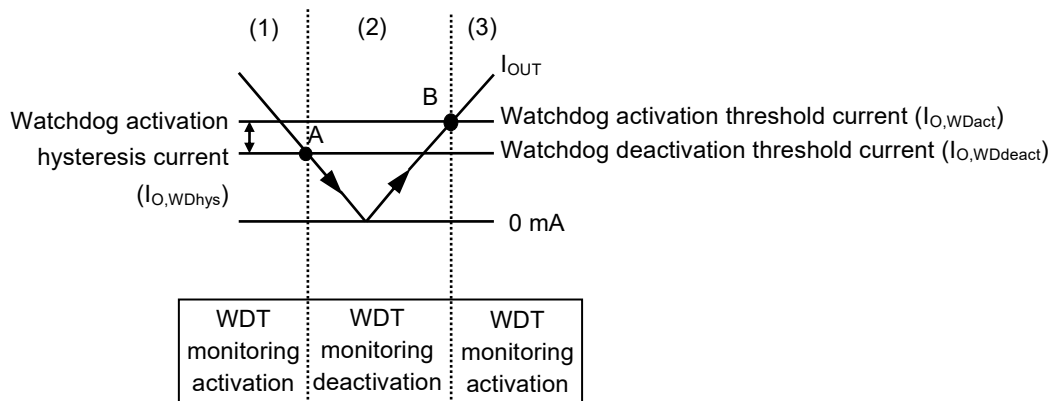

Figure 38 Autonomous Watchdog Operation Function
- (1) When I_{OUT} of the regulator is the watchdog activation threshold current ($I_{O,WDact}$) or more, the WADJ pin voltage (V_{WADJ}) is higher than the reference voltage (V_{ref}), and the output of the comparator (C1) is "H". At this time, the watchdog timer initiates the monitoring activation.
- (2) When I_{OUT} decreases to the watchdog deactivation threshold current ($I_{O,WDdeact}$) (point A in **Figure 38**) or less, V_{WADJ} decreases to V_{ref} or less and the output of C1 is "L". At this time, the watchdog timer deactivates the monitoring. Even if I_{OUT} increases, the watchdog timer continues the monitoring deactivation when I_{OUT} is within less than $I_{O,WDact}$.
- (3) If I_{OUT} further increases to $I_{O,WDact}$ (point B in **Figure 38**) or more, V_{WADJ} increases to V_{ref} or higher and the output of C1 is "H". And then, the watchdog timer initiates the monitoring activation.